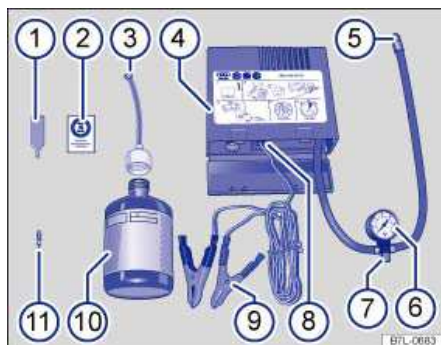

Fig. 343 Basic diagram: Contents of the tire mobility set.
The tire mobility set is stored in the luggage compartment under the floor panel. It contains the following ⇒ fig. 343:
11. Affix the label ⇒ fig. 343 \(2\) from the tire mobility set on the dashboard in the driver's field of vision.
- Unscrew the valve core from the tire valve using the valve core wrench ⇒ fig. 343 \(1\) and place it on a clean surface.
- Vigorously shake the tire inflation cylinder ⇒ fig. 343 \(10\) a few times back and forth.
- Tightly screw the filling hose ⇒ fig. 343 \(3\) to the tire inflation bottle (turn clockwise). The foil on the seal is automatically pierced.
- Remove the sealing plug from the filling hose ⇒ fig. 343 \(3\) and slide the open end onto the tire valve.
- Using the valve core wrench ⇒ fig. 343 \(1\) screw the valve core back into the tire valve.
- Screw the tire inflation hose ⇒ fig. 343 \(5\) of the air compressor tightly to the tire valve.
- Check whether the air release valve ⇒ fig. 343 \(7\) is screwed on tightly.
- Attach the cable clips ⇒ fig. 343 \(9\) **only** to the jump-start terminals in the engine compartment ⇒ fig. 344. The red clip on the compressor cable is connected to the positive (+) terminal; the black clip is connected to the negative terminal (—).
- Switch the air compressor on using the ON / OFF switch ⇒ fig. 343 \(8\),
Connect the tire inflation hose $\Rightarrow$ fig. 343 \(5\) again and read the tire pressure on the tire pressure gauge \(6\).